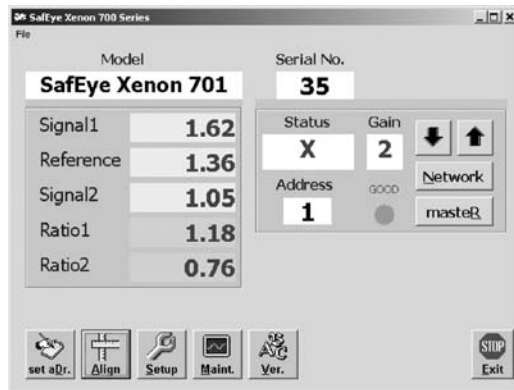

Figure C-4. Pressing ALIGN Button Changes Status
- The status now changes to "XXX" (FIGURE C-4).